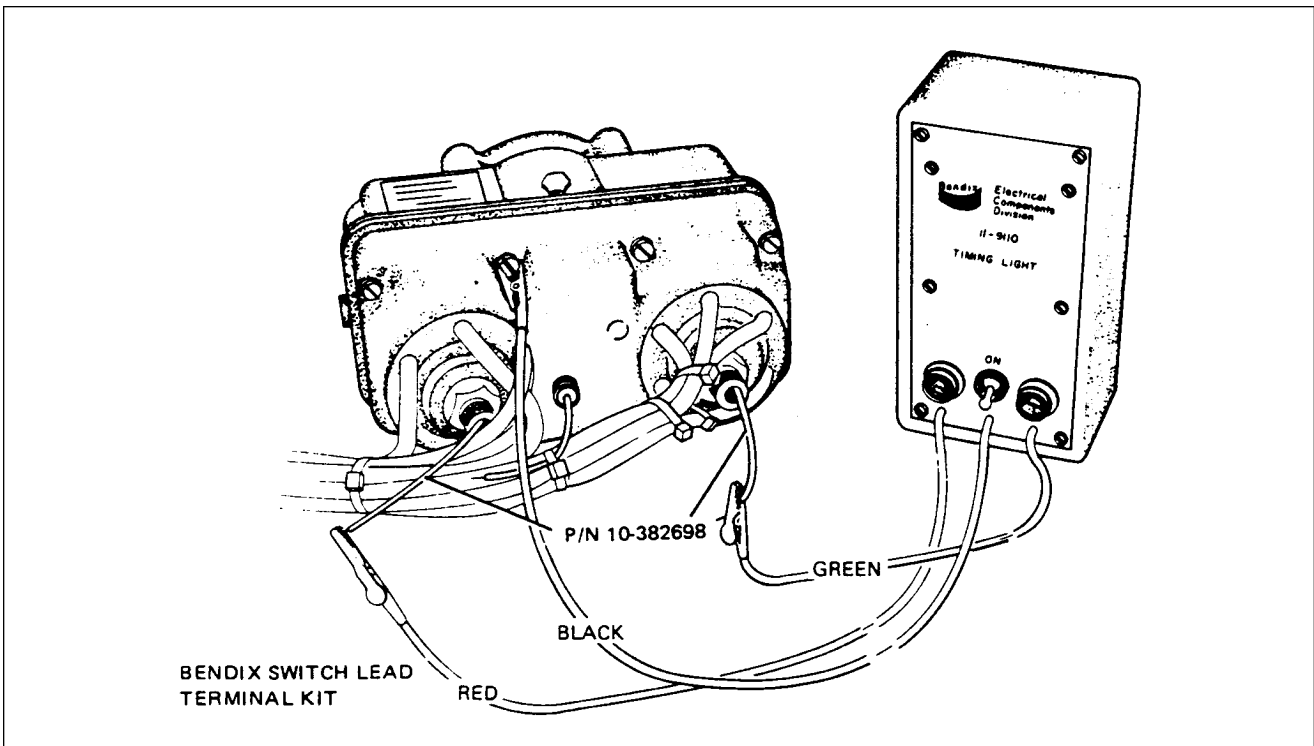

Figure 74-4. Timing Light Connected to Magneto
11. Attach red lead from 11-9110 timing light to left switch adapter lead, green timing light lead to right switch adapter lead, and black timing light lead to magneto housing. (Refer to figure 74-4)